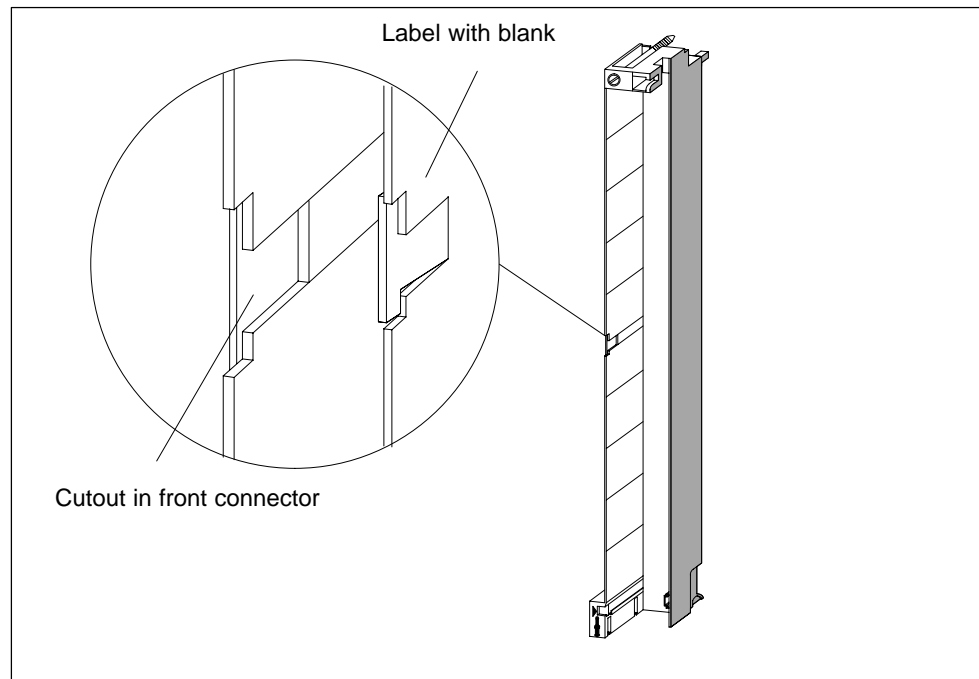

Figure 4-20 Fitting a Label in the Front Connector
2. Place a label on the left of the opened front connector. The label has a T-shaped blank in the middle with which you can fix the label onto the front connector housing. Bend the blank slightly to one side and push it behind the corresponding cutout of the front connector whilst sliding in the label (see Figure 4-20).
Figure 4-20 shows details for fitting a label in the front connector.